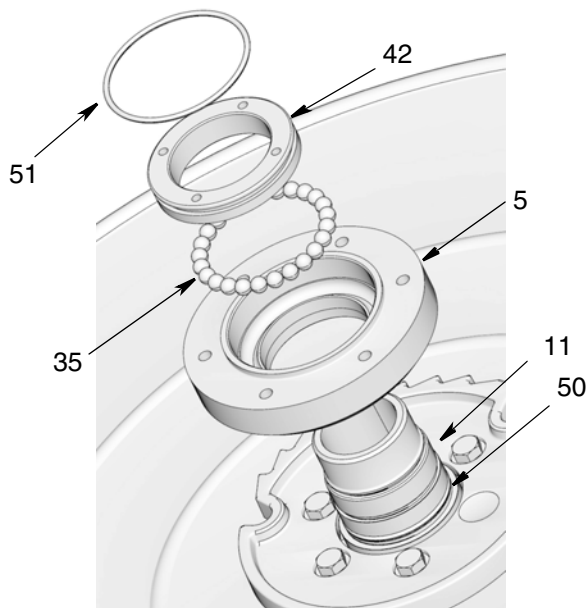

FIG. 32
**NOTE:** Unless otherwise noted, Steps b - g refer to FIG. 32.
- b. If reusing bearing balls (35) clean bearing balls with a soft, dry cloth.
- c. Grease bearing balls (35).